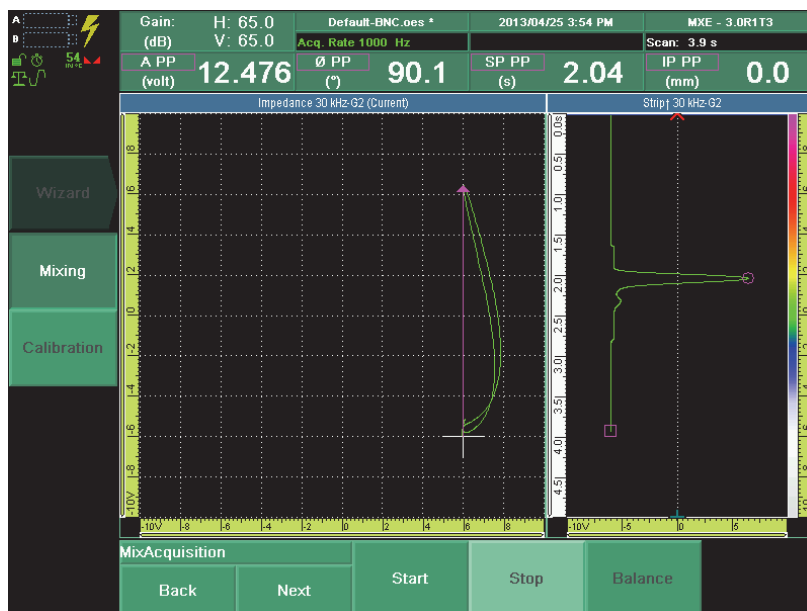

Figure 9-41 Scanning the good fastener in the Mix Acquisition step
4. Select **Start**, and then scan the good fastener (see Figure 9-41 on page 175).